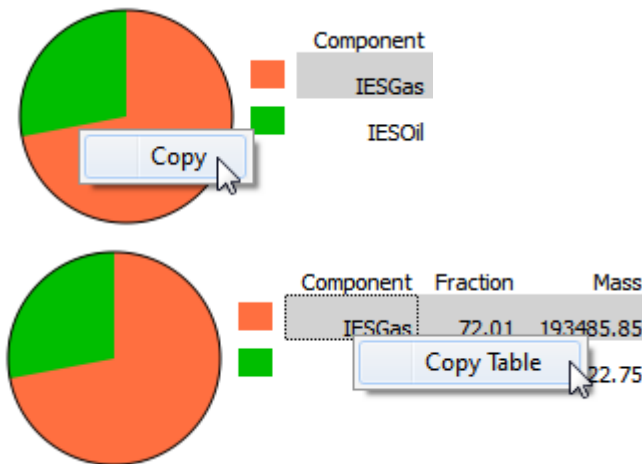

Fig. 3-19 Copying data from the Component pane
- 1 **Right-click** on the respective item and select either **Copy** or **Copy Table** from the context menu as shown in Fig. 3-19.